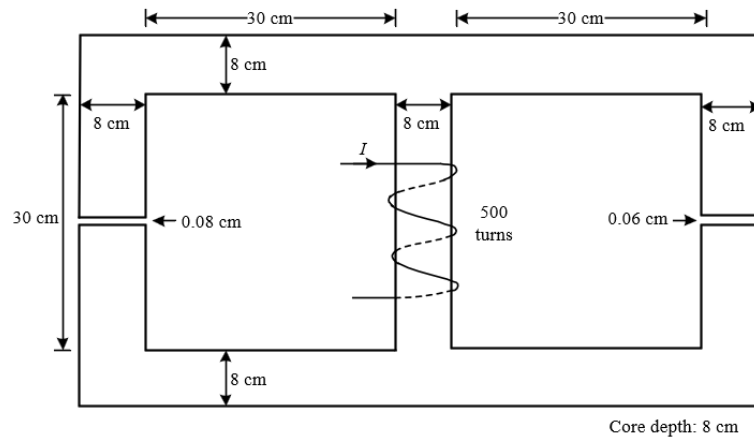

Fig. 7
7. A ferromagnetic core with a relative permeability of 1500 is shown in the figure below (Fig. 7). The dimensions are as shown in the diagram, and the depth of the core is 8 cm. The air gaps on the left and right sides of the core are 0.080 and 0.060 cm respectively. Because of fringing effects, the effective area of the air gaps is 8 percent larger than their physical size. If there are 500 turns in the coil wrapped around the center leg of the core and if the current in the coil is 1.0 A. what is the flux in each of the left, center, and right legs of the core? What is the flux density in each air gap ?